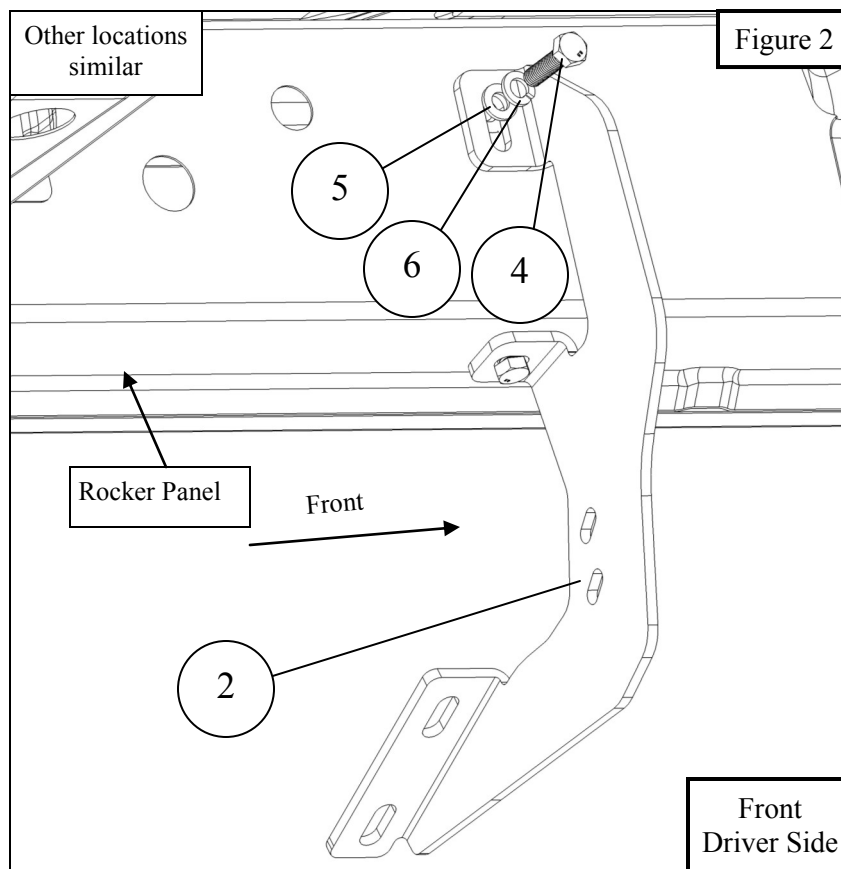

Figure 2
4. Locate (1) Mounting Bracket (Item 2) and loosely secure it to the rocker panel using the provided hardware: (2) M8 hex head bolt, (2) M8 flat washer, and (2) M8 lock washer. See **Figure 2**.